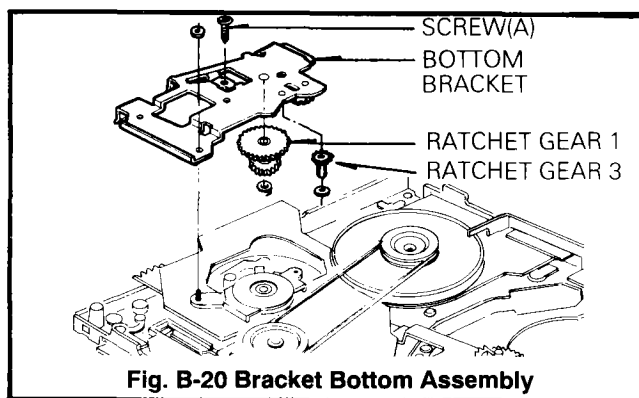

Fig. B-20 Bracket Bottom Assembly
20. Bracket Bottom Assembly (Fig. B-20)